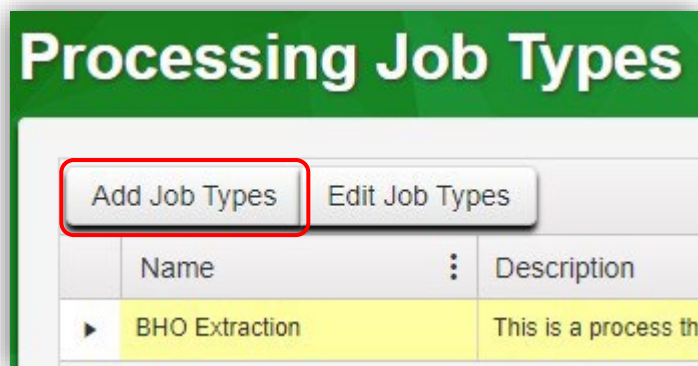

Figure 5: Add processing Job Type
- Once on the Processing Job Types grid, click the Add Job Types button to access the Add Job Types action window – **see Figure 5.**